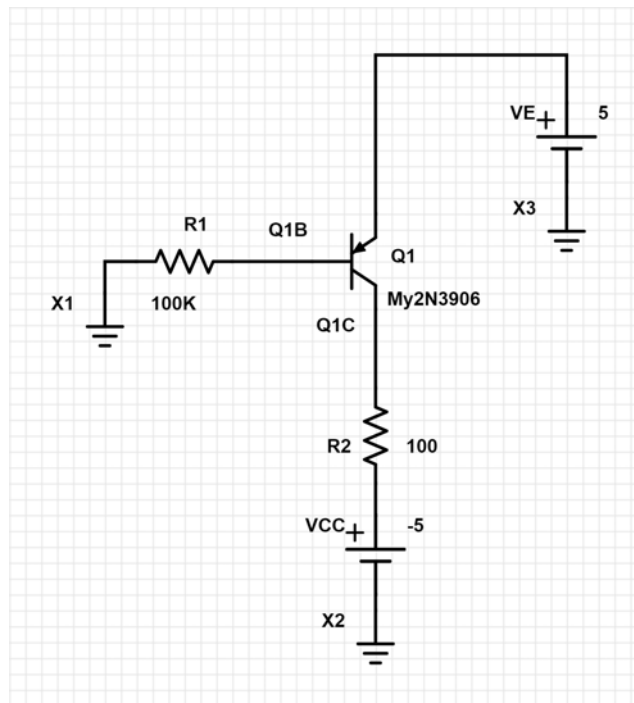

Fig. 3 The schematic diagram for the DC characterization of a PNP-BJT 2N3906
- 2.1 In Avenue to Learn, *Lab 1: DC Characterization and Biasing Circuits*, follow Video 2.1 to Video 2.3 to prepare the circuit diagram as shown in Fig. 3 to characterize a PNP-BJT 2N3906.